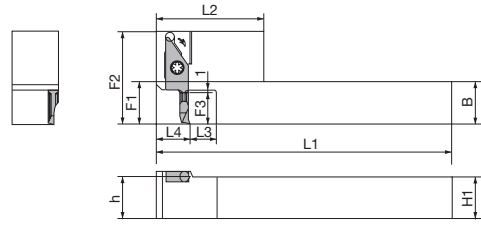

Fig.2 (SVNS-N)
* All system Tip-Bars Inserts are used with a SVNSR-N Toolholders. However, when setting the cutting edge at the face level of the toolholder as shown in Fig. 2, use the insert shown in (). In these cases, the F3 dimension of the toolholders corresponds to the L2 dimension of the insert.